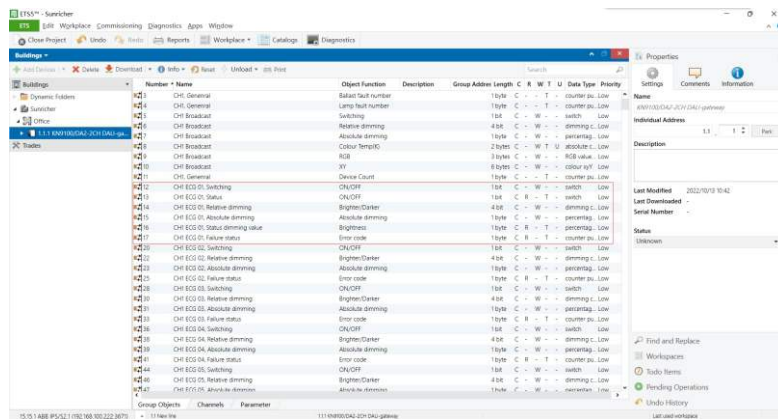

Figure 39
**If ECG 01 device type parameter is configured as DT6, Group Objects are as shown in Figure 39:**